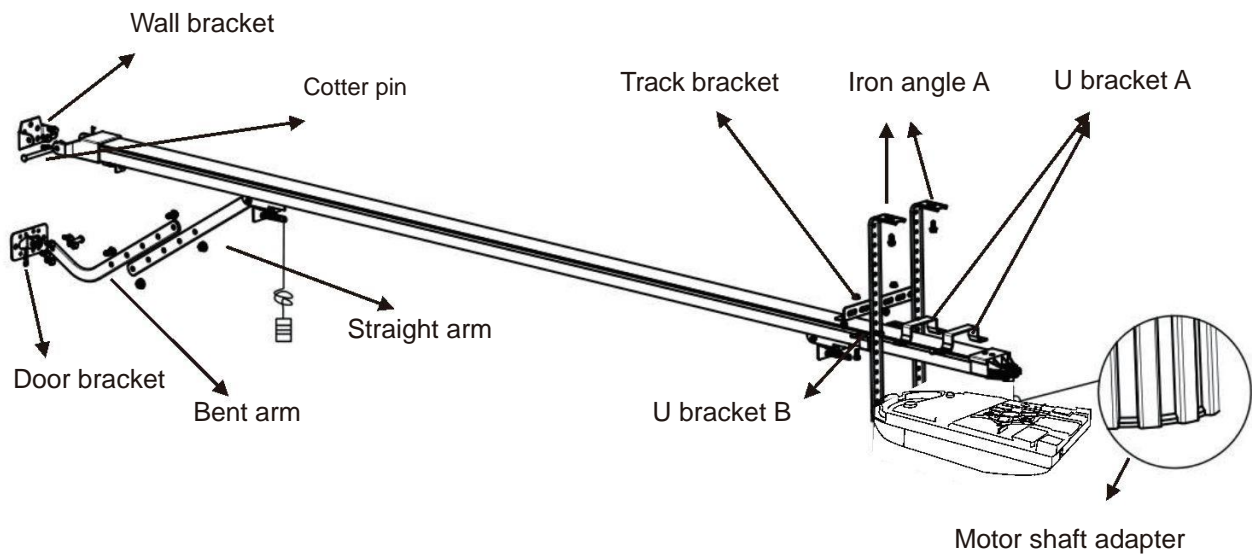

Fig.6
3. Sleeve the motor shaft adapter to the motor shaft according to Fig. 6.